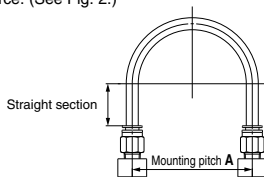

Fig. 1 Recommended piping
1. When installing piping in the One-touch fitting, make sure there is sufficient slack to the tube length as per the recommended piping conditions shown in Figure 1.